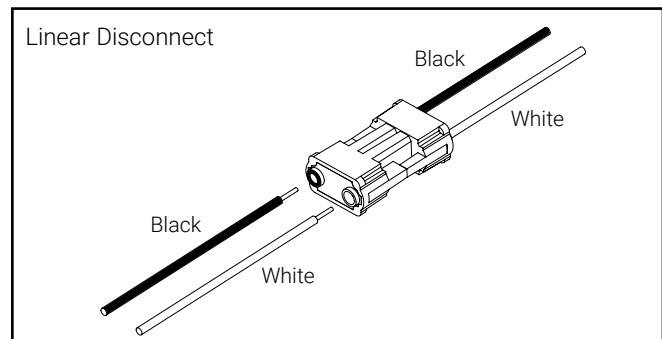

Figure 4.
- Make necessary wiring connections to driver AC line input. A Linear Disconnect is provided to speed installation (Figure 4). Optional DALI or 0-10V dimming circuits are wired. See Wiring Diagrams \*